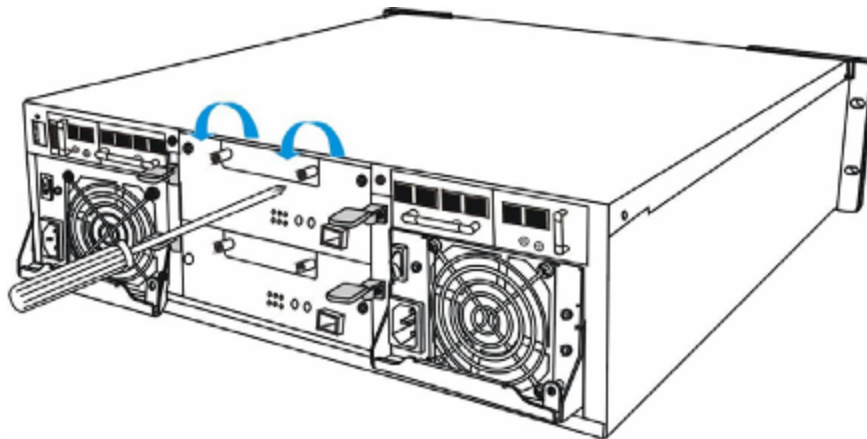

Figure 5-8: Removing the BBU
- Step 1. Remove the faulty BBU from the chassis.** Loosen the two (2) retention screws located on the sides of the BBU, then pull out the BBU. (See *Figure 5-8*)